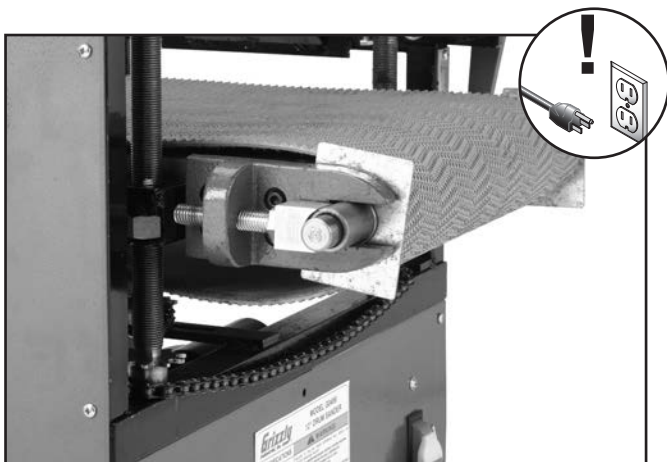

Figure 47. Conveyor belt loosened at the front adjustments (only one shown).
14. Loosen the conveyor belt at the front adjustments, as shown in **Figure 47**.